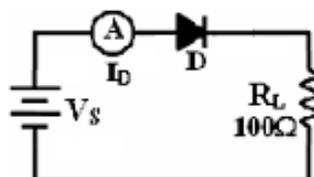

Figure 4
- 1- Construct the circuit shown in Figure 4. By using **1N4007 Si** diode. (*Make sure your diode has the correct polarity*).
- 1- Reverse the polarity of the DC power source ( $V_S$ ) as shown in Figure 4.